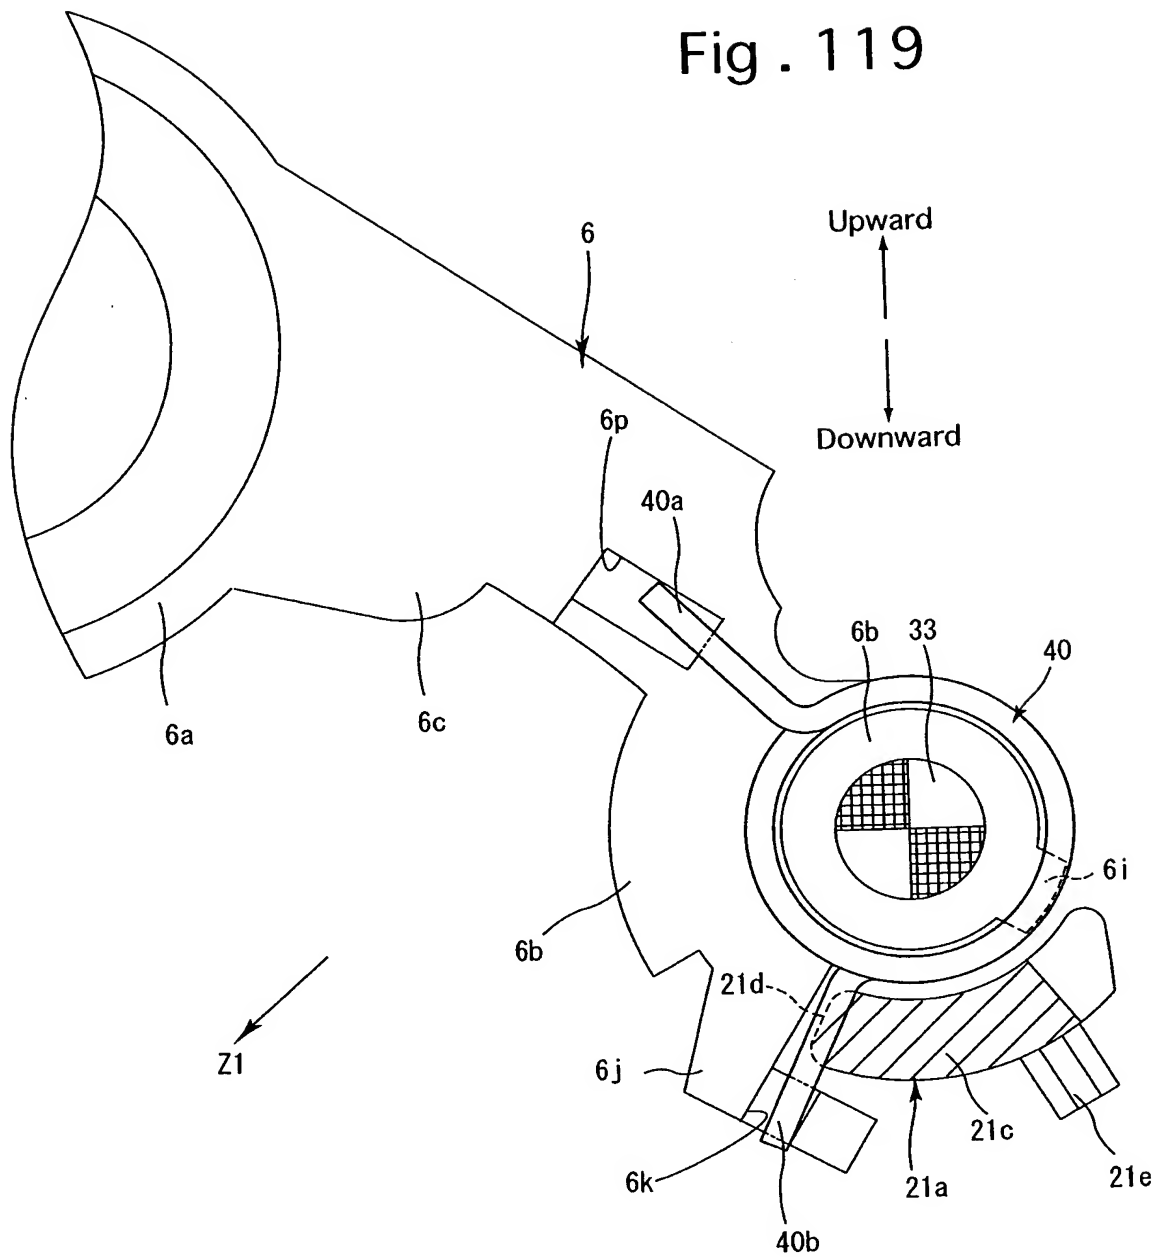

Fig. 120
Fig. 120 is a perspective view of a mechanical assembly. The assembly includes a large, curved, fan-like component (6) with a central opening (6a) and a curved edge (6c). A central shaft (6b) passes through the opening. A circular component (40) is mounted on the shaft, featuring a cross-hatched pattern (33) and a central opening (6i). A bracket (6j) is attached to the shaft, and a component (6k) is mounted on it. A curved line (NR1) is shown below the assembly. A vertical arrow indicates 'Upward' and 'Downward' directions. A horizontal arrow indicates the 'Z1' direction. A curved arrow indicates the 'Z2' direction.